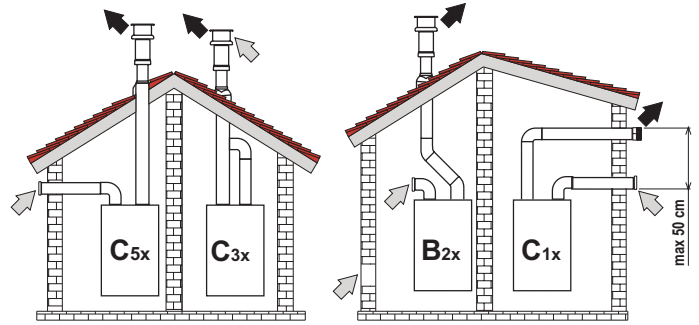

fig. 14 - Example of a connection with separate pipes
- 1 Unscrew the A screws (see fig. 14).
- 2 Rotate the casing (see fig. 14).